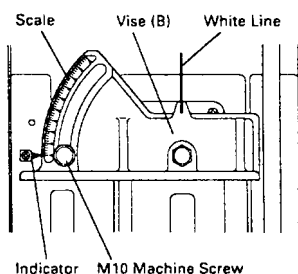

Fig. 14
The Model CD 14F is capable of angle cutting up to an angle of 45 degrees. Angle setting of vise (B) can be accomplished by loosening the bolt M10 and the hex. head screw with the accessory 17 mm wrench, and aligning the indicator with the described angle setting on the angle graduation scale. (See Fig.14.)